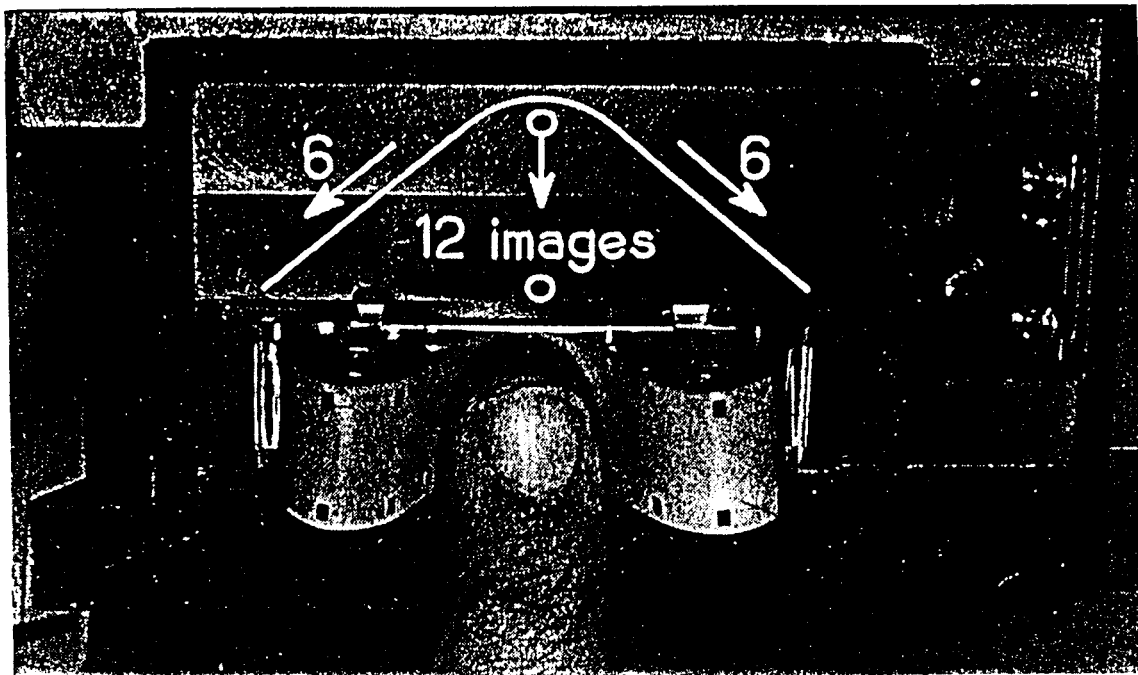

Fig. 13-14. Eclair NPR—dividing the loop. Courtesy of Eclair International Diffusion.
15. *To set loops* (Fig. 13-14): Press the forefinger into the center of the 12–13-frame arc to form two equal halves which, when pushed back into the magazine, will form the upper and lower internal loops. (There should be six frames for the top loop, six to seven frames for the bottom loop.)